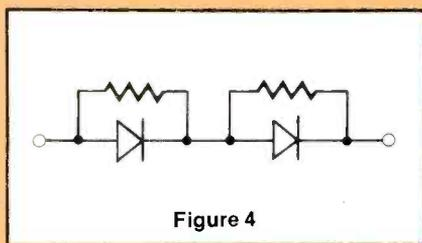

Figure 4
7. Refer to Figure 4. Which of the following statements is correct?
- B. There is a perfectly good reason to connect resistors across diodes as shown in Figure 4. The circuit has practical applications.